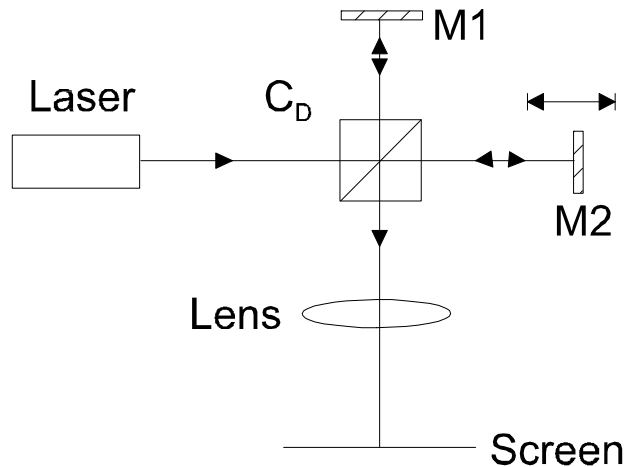

Figure 1
Interference deals with the superposition of coplanar electric field of light. Broadly speaking, interference may be produced by the division of wavefront or amplitude. An important device representing the latter is the Michelson interferometer which was used in the famous Michelson- Morley experiment to detect the presence of "ether". The interference of two beams produces a series of dark and bright images known as the fringes. In order for the fringes to appear, it is necessary to use a monochromatic (or nearly so) extended source. For example, a He-Ne laser is one such source. A standard Michelson interferometer set-up is shown in Figure 1 below:
1. Mount mirrors  $M_1$ ,  $M_2$  cubic beam splitter, laser, and the screen as shown in Figure 1 so that  $l_1, l_2, l_3 \approx 0.05\text{m}$  and  $d < 0.0025\text{m}$ .